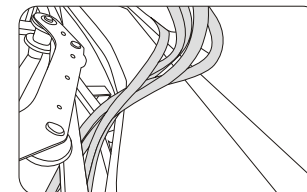

Figure 2
- Put the air pipe and power cord into the steel frame (avoid the air pipe stuck). (figure 2)